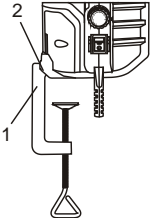
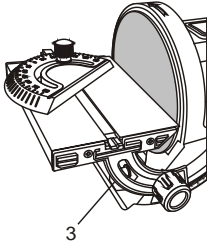

Fig. 1
Fig. 2
**▲ WARNING:** Before attempting to use the sander, it must be securely clamped to a workbench or similar stable surface. The sander may be clamped in a vertical position (Fig. 1) or in its normal horizontal position (Fig. 2) to allow the sanding disc to be in a vertical position at a right angle to the work bench.